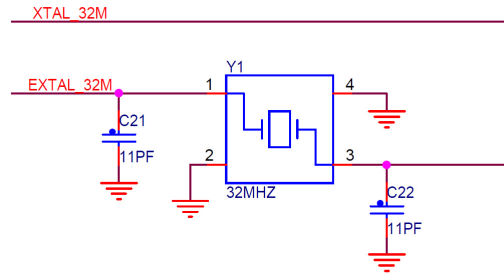

Figure 7. FRDM-KW24D512 board's 32 MHz reference oscillator circuit
- 32 MHz Reference Oscillator: Figure 7 shows the external 32 MHz external crystal Y1. This mounted crystal must meet the specifications outlined in the AN3251 application note (see AN3251). The IEEE Std. 802.15.4 requires that the frequency be accurate to less than ± 40 ppm.